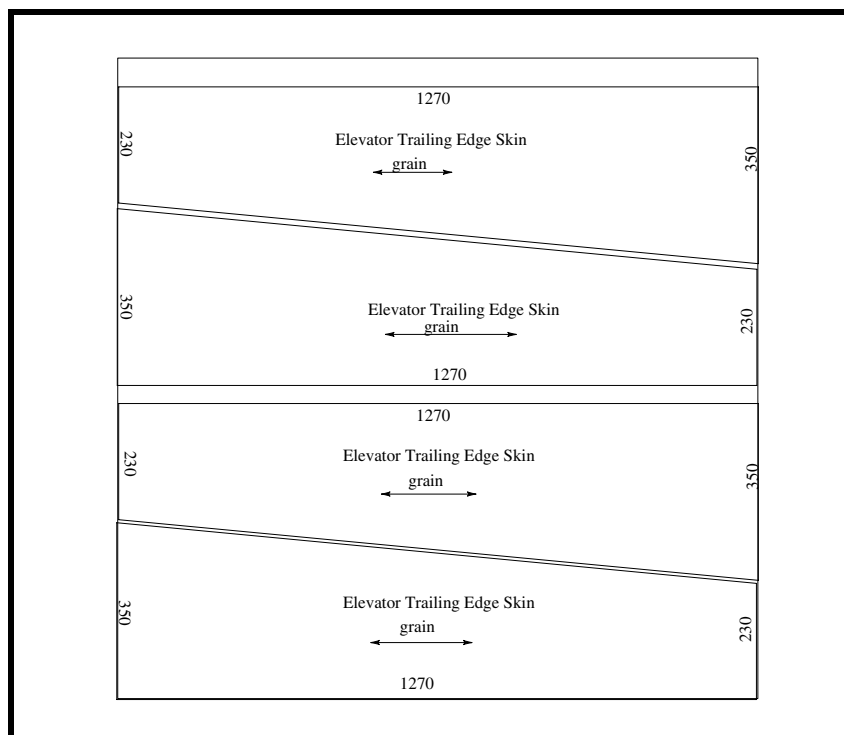

Figure 3
- ❑ Use one 50"x50" sheet of 1.2mm birch plywood and cut in accordance with Figure 3.